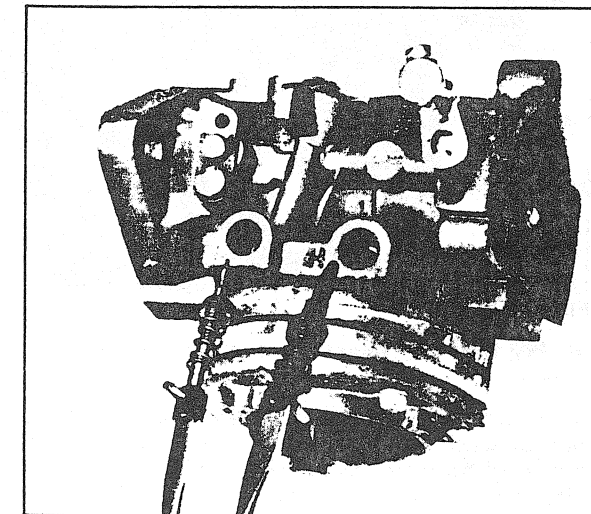

FIGURE 1
- Remove and inspect the idle speed mixture and high speed adjusting screw assemblies. (Fig. 1).